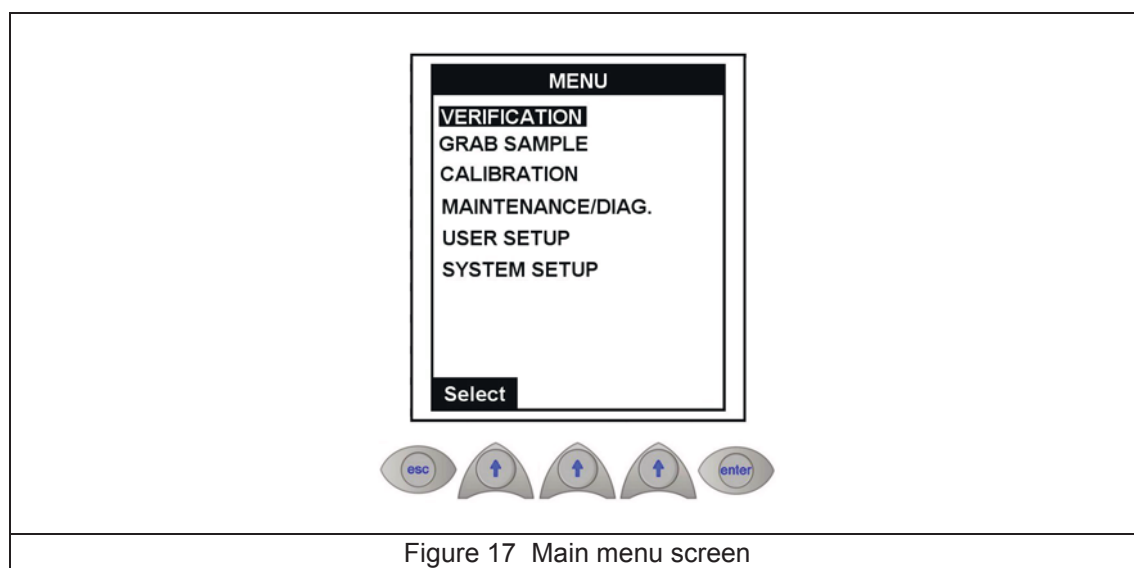

Figure 17 Main menu screen
- **Menu** - This will bring up the main menu screen as illustrated in Figure 17 on page 59.